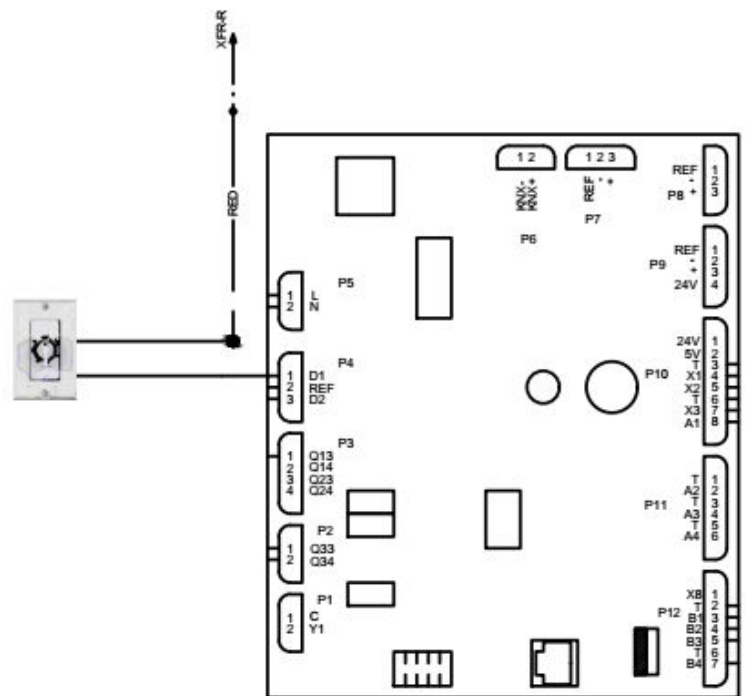

FIGURE 26 - Version 1 (Egg Timer/Analog Connection)
4. Connect the LOAD side of the timer switch to the D1 terminal wire [See **FIGURE 26 - Version 1 (Egg Timer/Analog Connection)**].